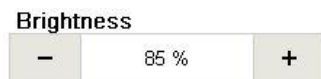

Figure 105
**Brightness:** Set the maximum brightness of the display (Figure 105).